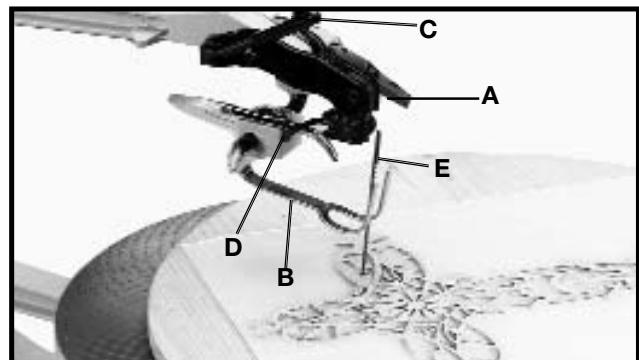

Fig. 37
Loosen lock handle (A) Fig. 37, and raise the spring holdown (B). Release blade tension by moving tension lever (C) forward and loosen upper blade holder by moving lever (D) to the rear as shown. This will release the blade (E). Insert the blade (E) into the next hole in the pattern, as shown.